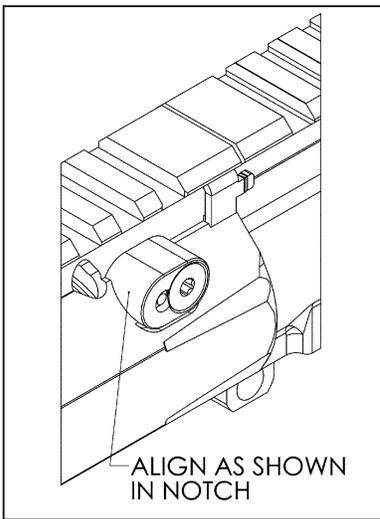

Figure 3
- Starting on either side, locate and place a clamp block as shown in **Figure 3**.